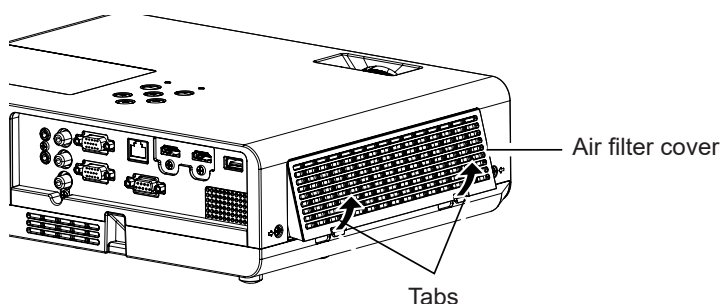

Fig.1
**1) Remove the air filter cover. (Fig.1)**